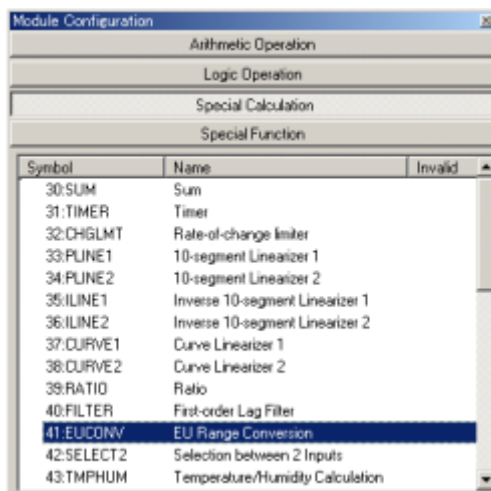

Figure 12.4.3 [Module Configuration] Dialog Box
- (2) In the [Input Block] dialog box, double-click a blank box. The [Module Configuration] dialog box (Figure 12.4.3) appears.